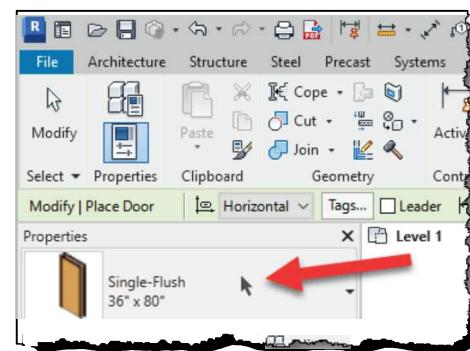

FIGURE 2-2.2 Door type selected
3. On the *Ribbon*, click **Tag on Placement** so it is highlighted (meaning on) and then change the *Type Selector* to **36" x 80"**; see Figure 2-2.2.